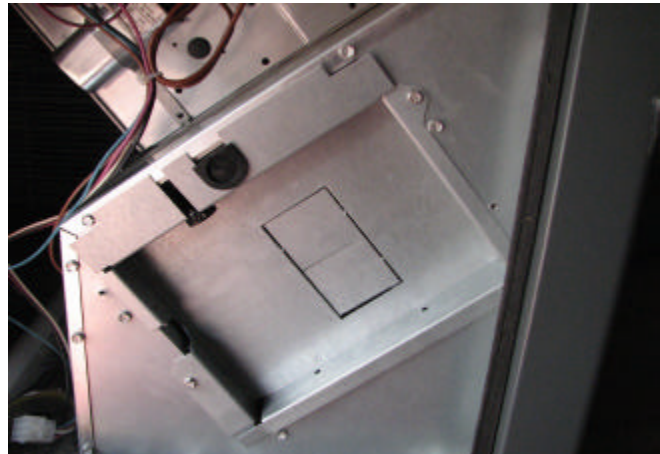

Figure 1
4. Locate heater box. Remove the two screws holding the heater box cover in place. See Figure 1.